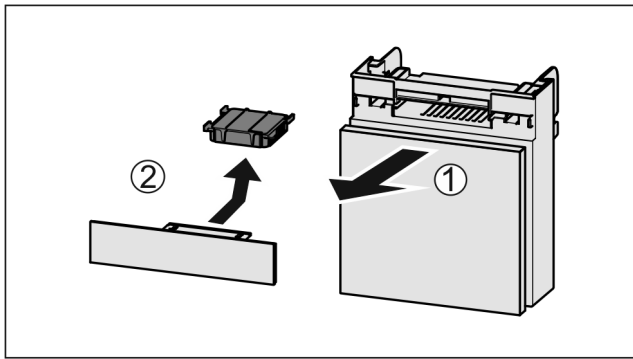

Fig. 207
- ▶ Pull out the compartment Fig. 207 (1).
- ▶ Remove the carbon filter Fig. 207 (2).